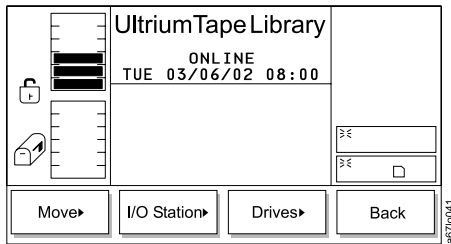

Figure 156. Command Menu
1. From the Main Menu’s initial screen, press the button below the **Command** softkey. The Command Menu displays (see Figure 156 on page 132).